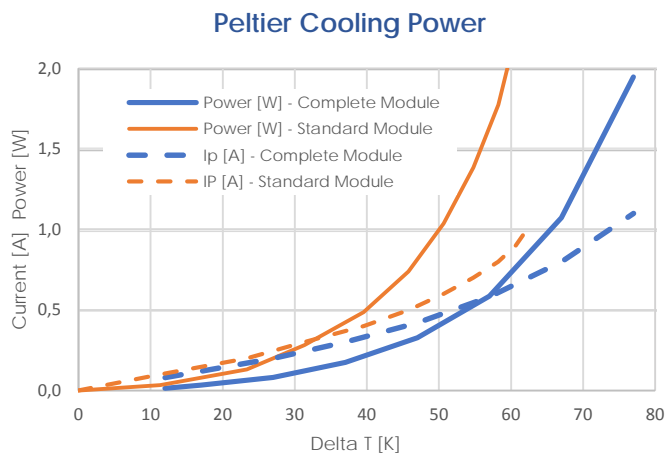

Fig. 4
**Reduction of the Peltier cooling power** by about 50% compared to a standard module with 25 mbar N2 filling. An operation temperature of -30°C is reached by significantly less than 1 W power consumption (see fig. 4).